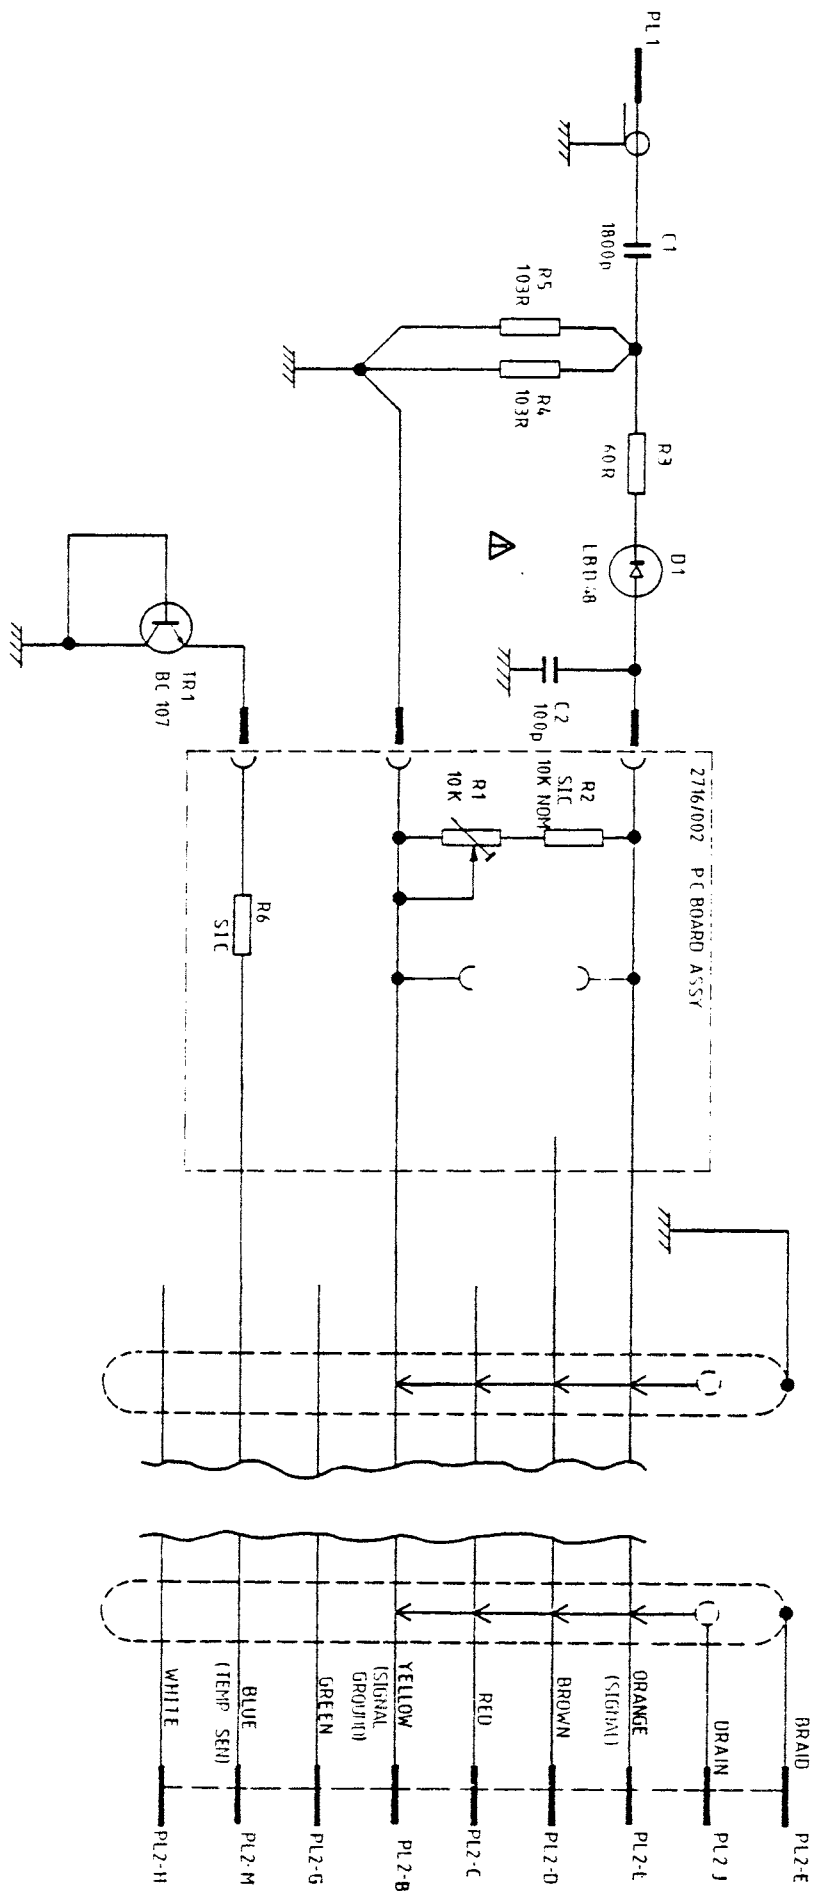
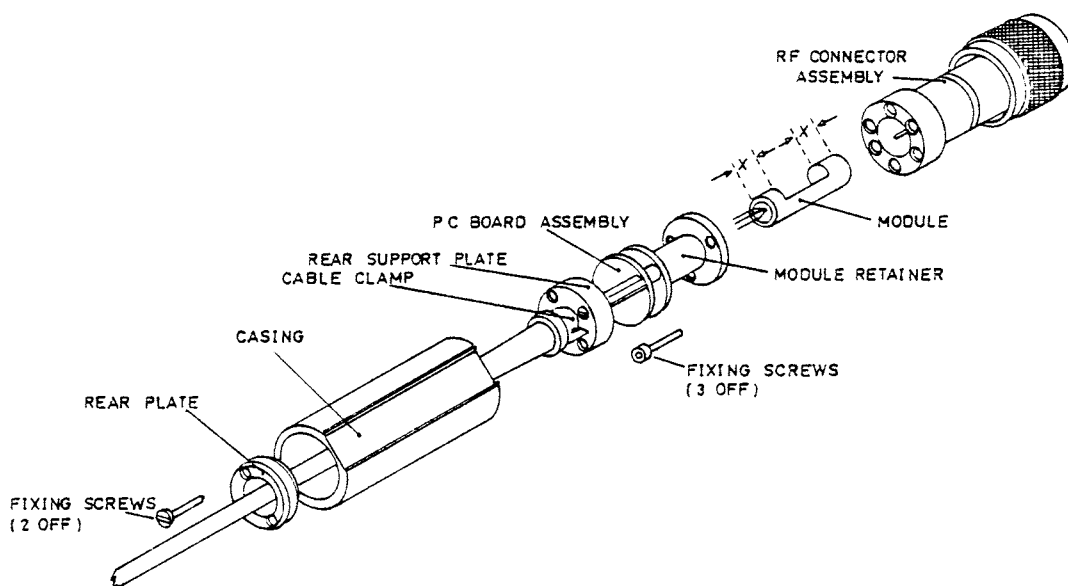

Fig. 1 6511(6512) Detector circuit diagram
Fig. 2 6511 Detector, exploded view
5. Fig 1 shows the circuit diagram of the detector module, p.c.b. and wiring details. Fig. 2 shows an exploded view of the detector to assist in the dismantling which can be carried out as follows :-